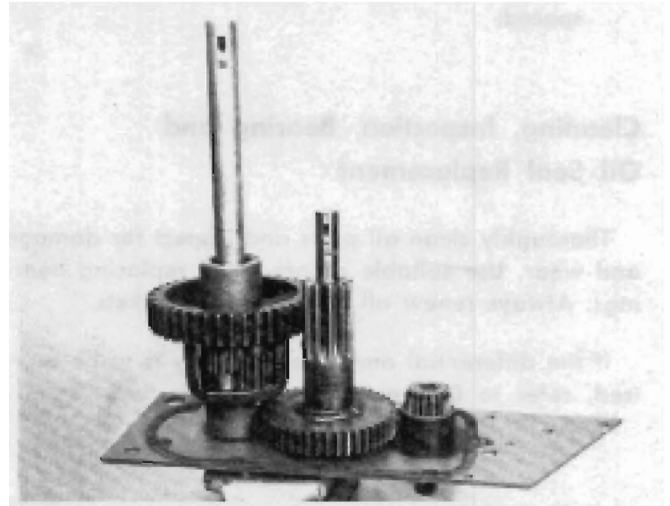

FIGURE 7
10. Remove the differential and axle assembly, the brake shaft gear and the input gear and shaft. See Figure 7. Remove the input shaft seal.